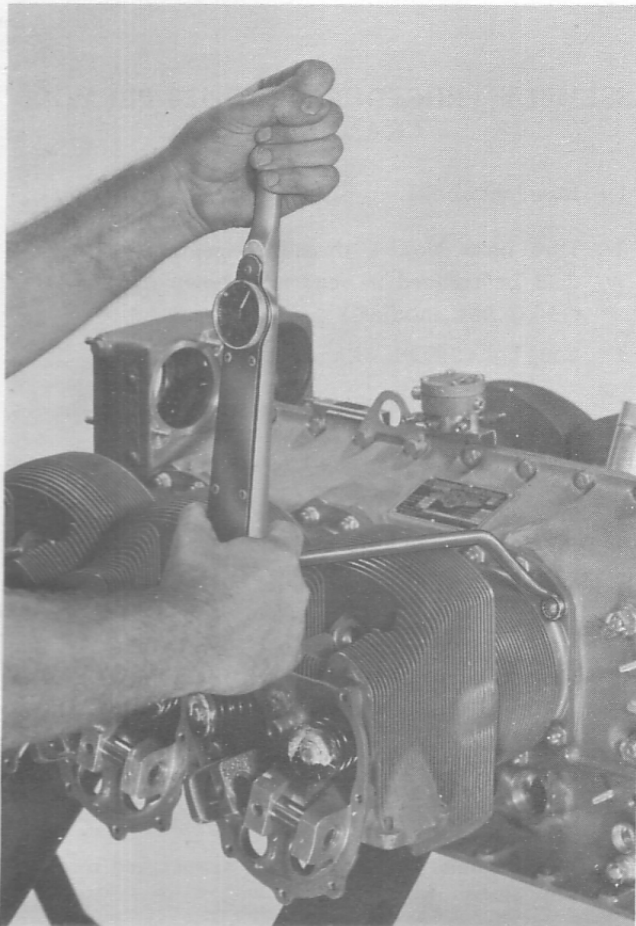

FIGURE 8-7. TIGHTENING CYLINDER BASE NUT.
h. After installing all pistons and cylinders, tighten and torque nuts according to sequence shown in Figure 8-7.